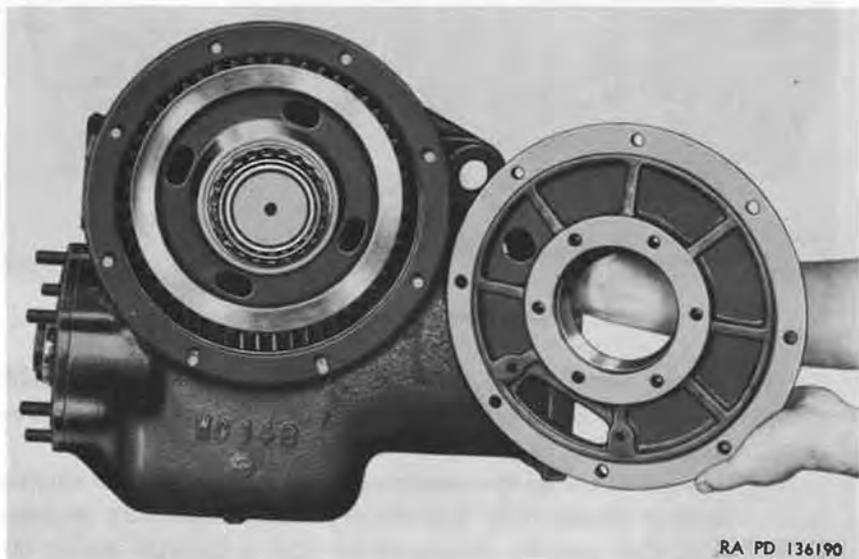

Figure 38. Gear case cover and worm bearing cap removed.
- (3) Remove eight safety nuts and take off gear case cover (fig. 38) and gasket.